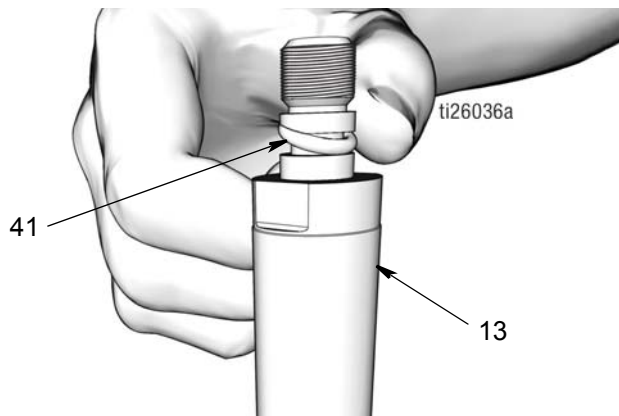

FIG. 46
**NOTE:** Do not clamp piston rod (13) in vise.
- Use a clean cloth to wipe down the piston rod (13) and piston (6) and remove any dirt or contaminants. Inspect surfaces for any scratches or damage. Replace damaged parts.
- Apply a thin layer of grease to o-ring (41). Install o-ring over the grooves of the piston rod (13) (FIG. 46).
**NOTE:** If needed, a pick can be used to help seat the o-ring over the grooves of the piston rod (13).